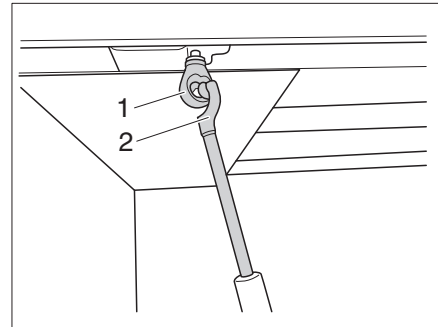

Fig. 155 Height adjustment
- Insert the crank (Fig. 155,2) into the height adjustment lug (Fig. 155,1).